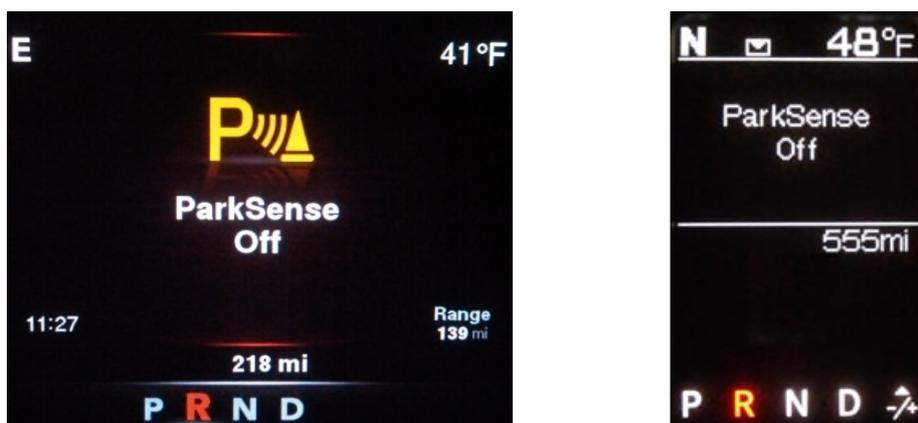

Figure 14: Cluster Image for ParkSense Off
4. With the object still detected, put the vehicle in park and press the ParkSense button. Watch for the indicator light on the ParkSense button **Figure 11** to illuminate and the instrument cluster to display “ParkSense Off” **Figure 14**. Now shift the vehicle back into reverse and confirm that **Figure 14** is shown in the instrument cluster. Additionally when the ParkSense button is pressed to initially turn the system off one chime will sound as well as each time the vehicle is shifted into reverse as an audio reminder that the ParkSense system is off. Once confirmed, put the vehicle back in park and press the button again to turn ParkSense back on. This completes the ParkSense System validation and confirms a successful installation.